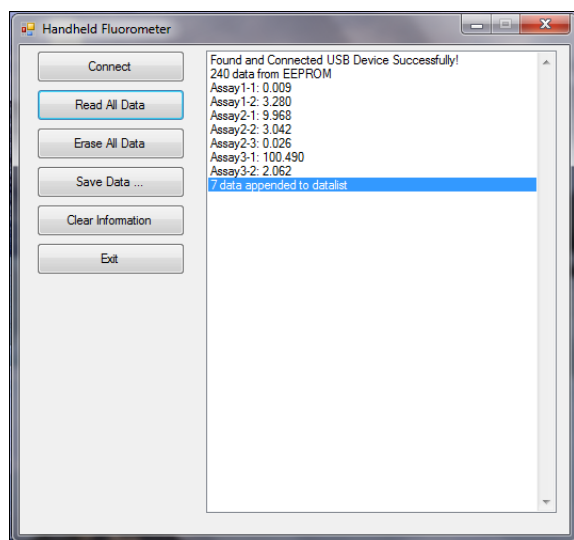

Figure 10. Access and manage saved data
- Click "Read All Data" to read and display all saved data in the fluorometer as shown in Figure 10. The example shows that Assay#1 has 2 data points, Assay#2 has 3, and Assay#3 has 2 stored in the memory.